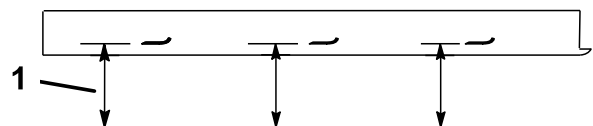

Figure 55
2. Measure from a level surface to the cutting edge, position A, of the blades (Figure 55). Note this dimension.